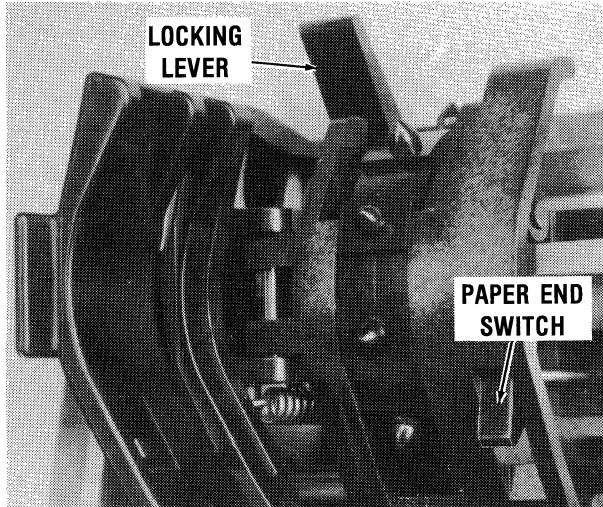

Figure 2-5A Left Tractor Controls
2. Open the paper cover and unlock the left tractor by pushing the lever rearward (Figure 2-5A). Note the Paper End switch.